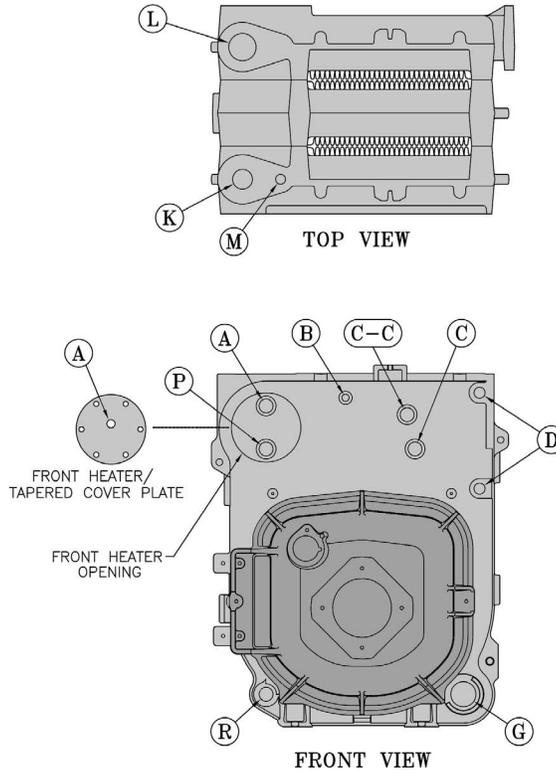

Figure 3-3: Boiler Tapping Locations and Usage (Knockdown Boilers Only)
Remove gauge, valve and plugs from those tappings to be used. Leave other tappings plugged or bushed according to Figure 3-3.
I. INSTALL TRIM. The following water trim will be concealed or inaccessible after boiler jacket is installed, see Figure 3-3 for boiler tapping locations and usage.
- Open burner swing door. Remove one (1) 5/16 in. -18 flange nut and washer from right side latching stud and one (1) 5/16 in.- 18 x 3½ in. cap screw on left side used for securing burner swing door to the boiler section. Swing door open.